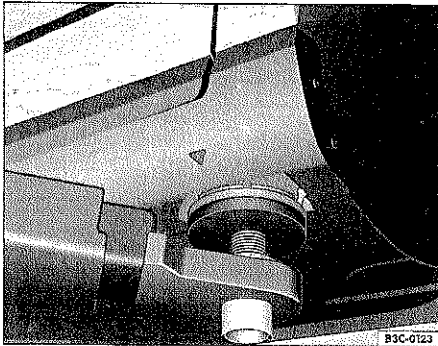
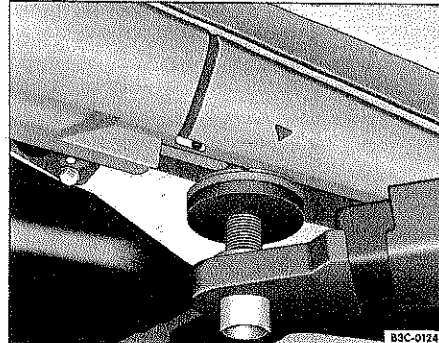

Fig. 46 Front lift point for workshop lift or floor jack.
Fig. 47 Rear lift point for workshop lift or floor jack.
Your vehicle may only be lifted by a floor jack or workshop lift using the lift points shown ⇒ fig. 46 and ⇒ fig. 47. Lifting the vehicle from a point other than that shown above can result in serious damage to the vehicle ⇒ ⚠ and cause serious personal injury ⇒ ⚠.
- Always lift your vehicle only at the designated lift points shown in the illustrations ⇒ fig. 46 and ⇒ fig. 47. Not using the designated lift points can cause the vehicle to fall off the floor jack when heavy parts such as the engine or transmission are removed.